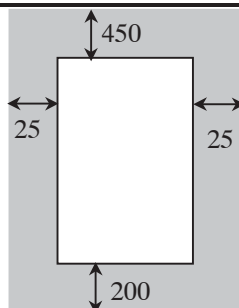

Fig. 5.1
- To allow maintenance procedures it is necessary to leave the minimum gaps indicated in Fig. 5.1.